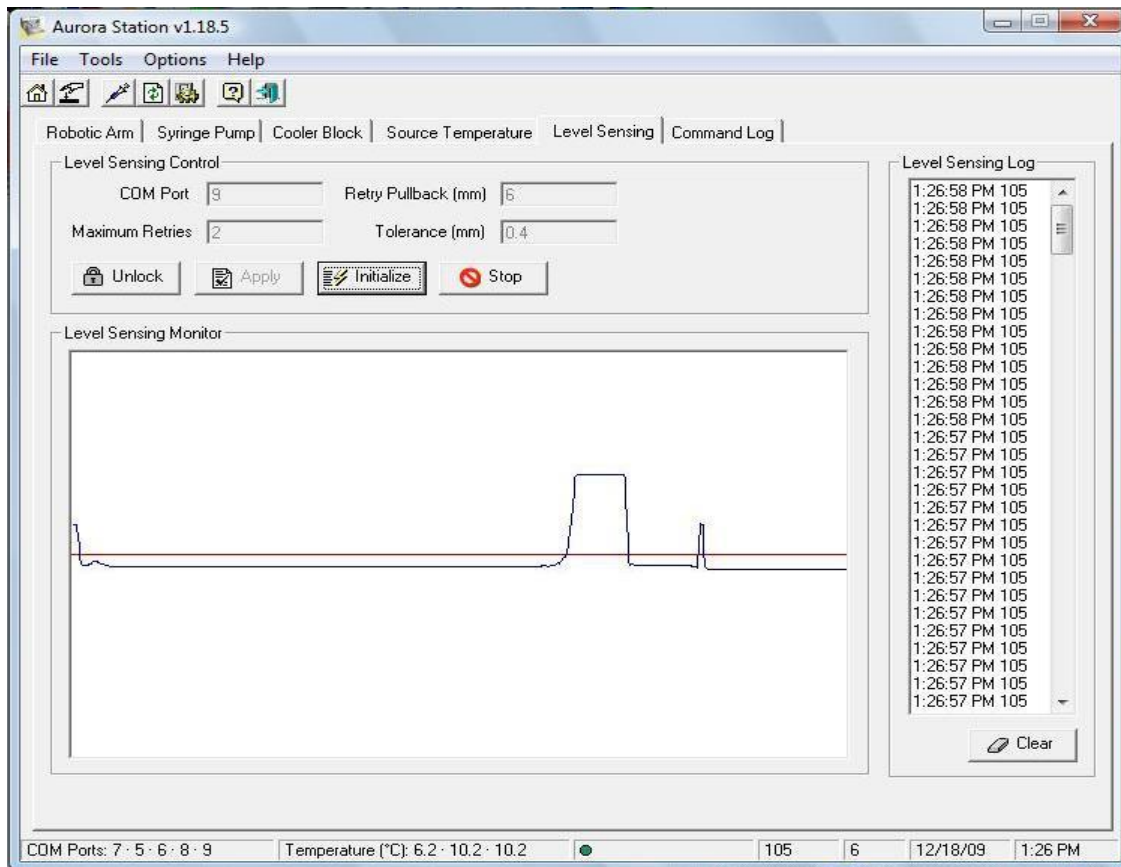

Figure 9-67 Base Signal
7. Note the jump of the signal from 100 to approximately 200 (*Figure 9-67 Base Signal*).